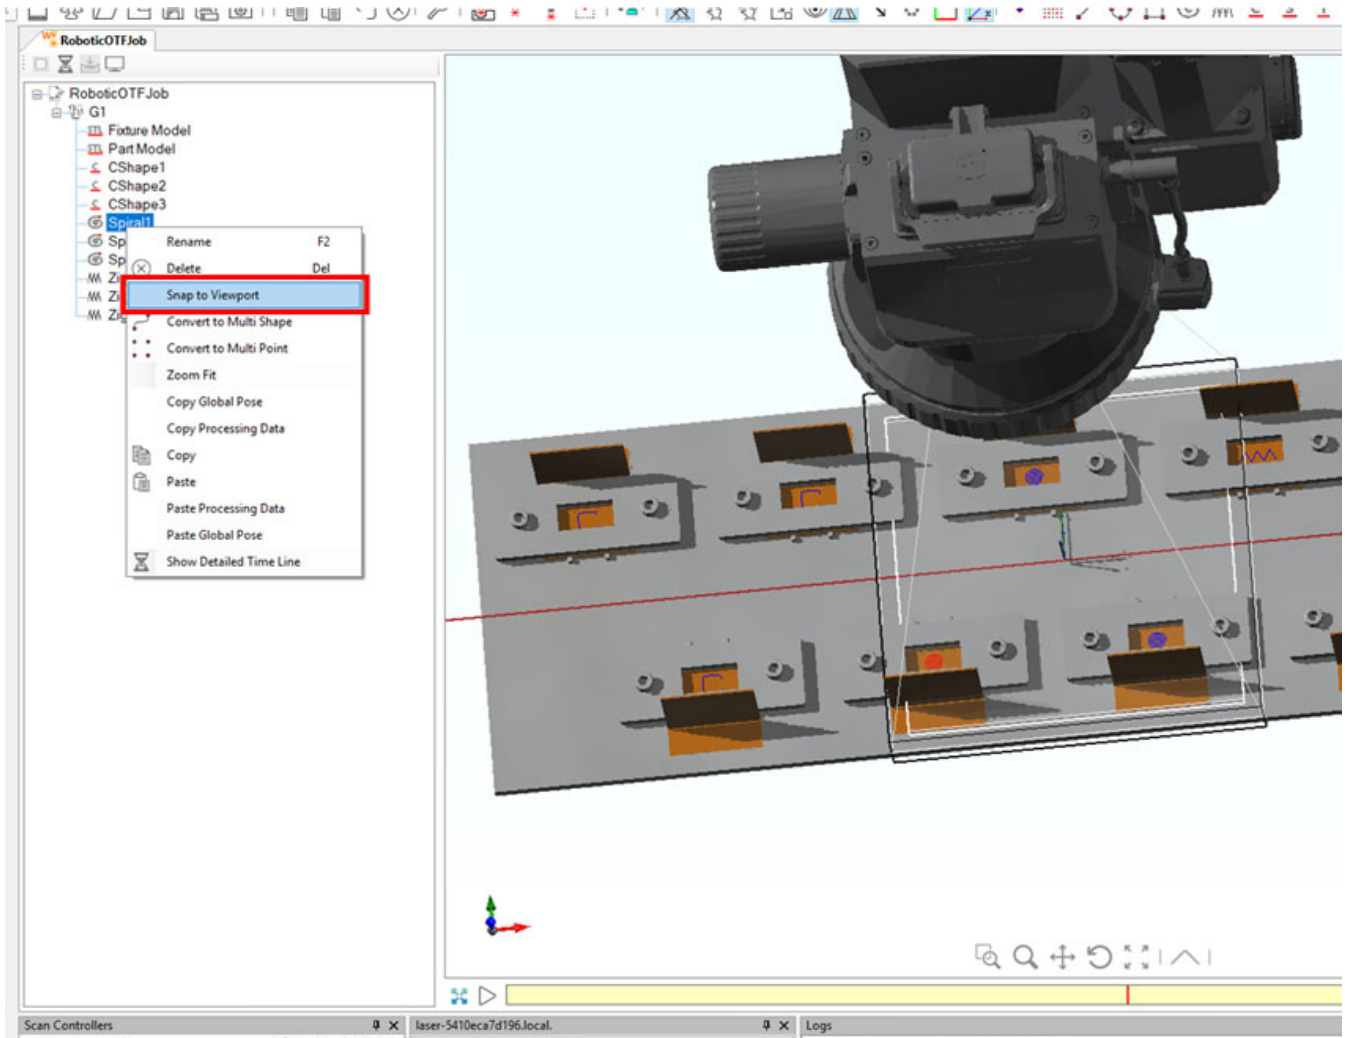

Figure 300: Snap to Viewport
3. When the viewport is at a desired location in the trajectory, right click on any object and select "Snap to Viewport." See Figure 300 on page 278.